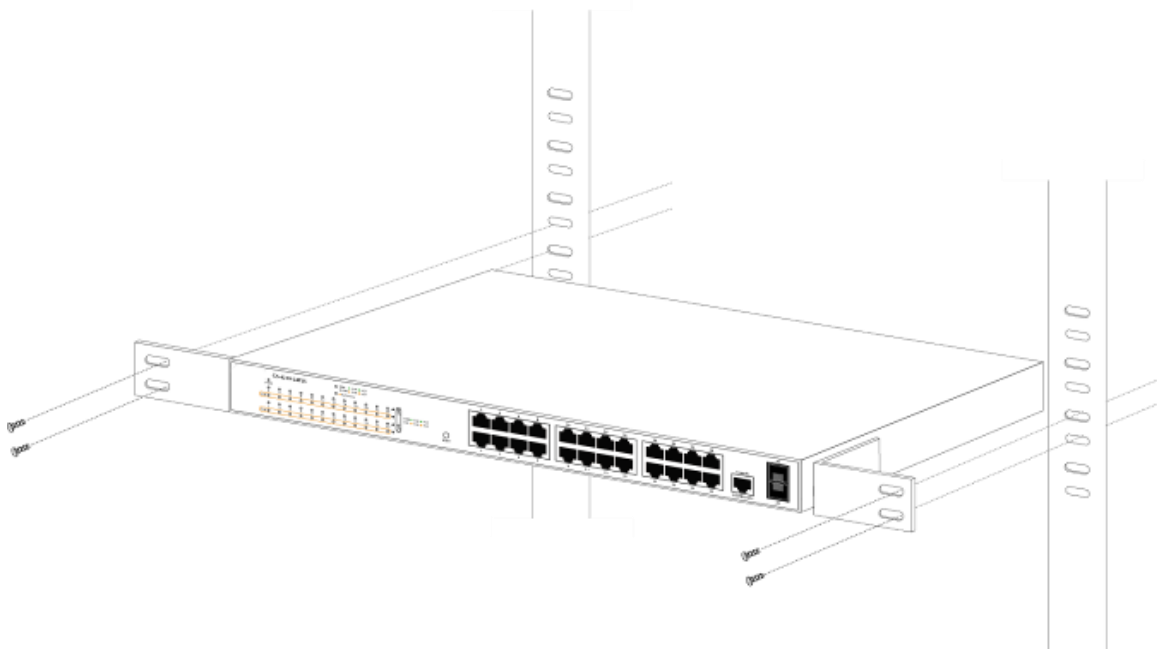

Figure 3-2: Mounting the 802.3at PoE+ Switch in a Rack
Step 5: After the brackets are attached to the 802.3at PoE+ Switch, use suitable screws to securely attach the brackets to the rack, as shown in Figure 3-2.